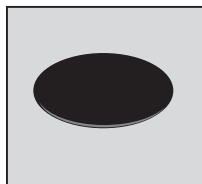

Figure 10.1
3. Empty the safe and remove the plastic caps covering the predrilled holes on the bottom of the safe (Figure 10.1).